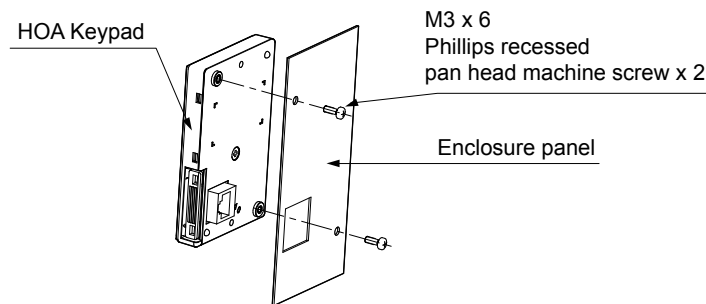

Figure 2.12 External/Face-Mount Installation
2. Position the HOA keypad so the display faces outwards, and mount it to the enclosure panel as shown in Figure 2.12.